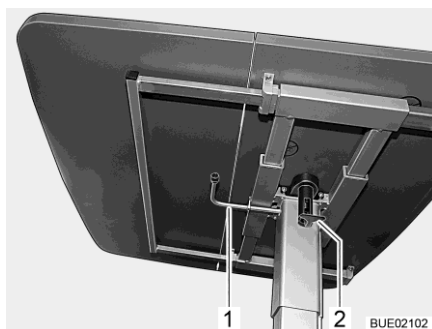

Fig. 104 Lift-off table
- Fold down the catch lever (Fig. 104,2).